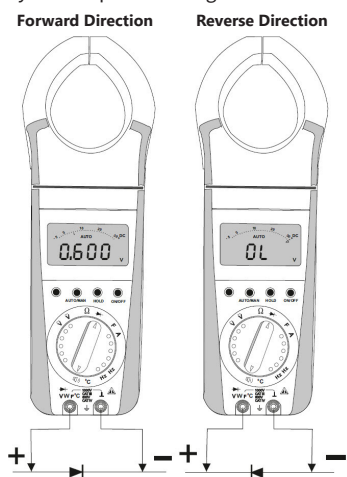

Fig. 3 Diode Measurement
- Set the function selector switch (6) to " $\rightarrow$ "
- Connect the device under test as shown in figure 3 or 4.